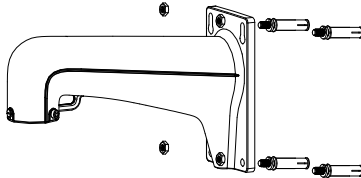

Figure 2-7 Secure the Bracket
- The bracket in Figure 2-7 is the recommended bracket for this series of speed dome, and a pendant adapter is required if any other bracket is selected. The dimension of pendant adapter is $G1\frac{1}{2}$.